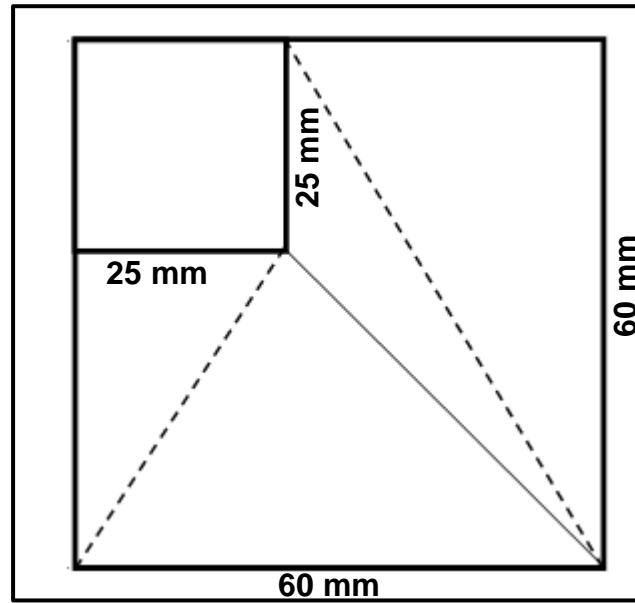

FIGURE 4.14
4.14 Identify the type of hopper in FIGURE 4.14 below.